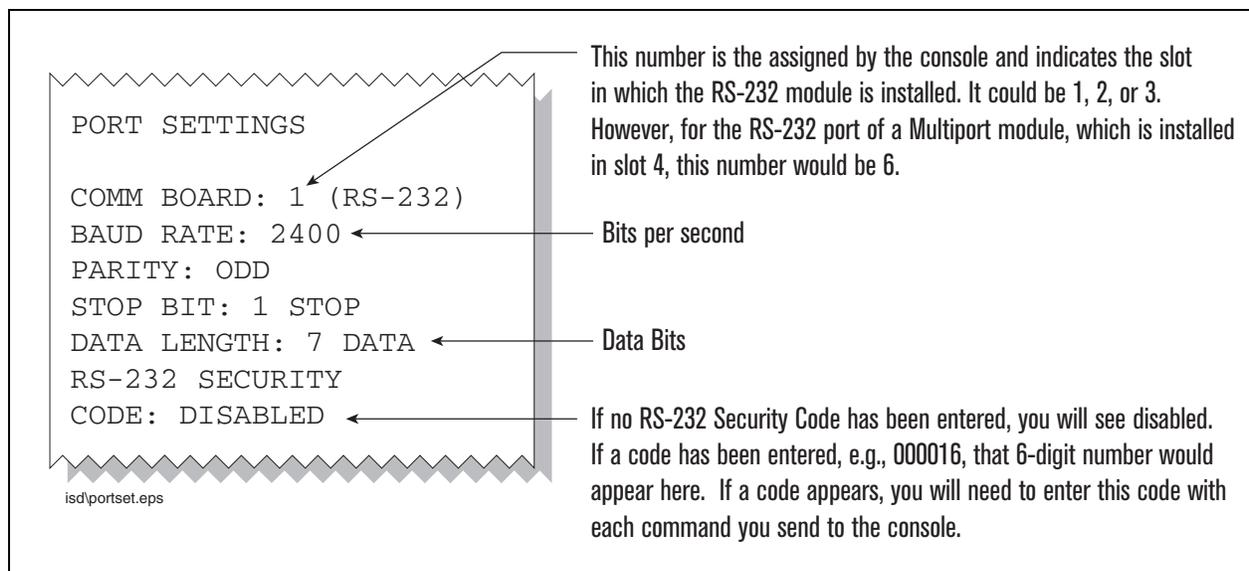

Figure 39. Console comm port settings printout example
- d. Press the PRINT key to printout the port settings for all communication modules installed in the console. Figure 39 shows an example port settings printout with the RS-232 module installed. Using the console port settings in the example below, your HyperTerminal 'Port Settings' window entries would be Bits per second - 2400, Data bits - 7, Parity - Odd, Stop Bits - 1. For the 'Flow Control' entry select None. Click OK.